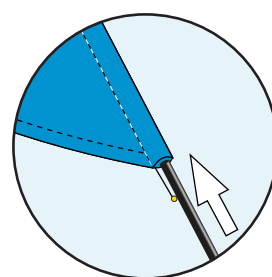
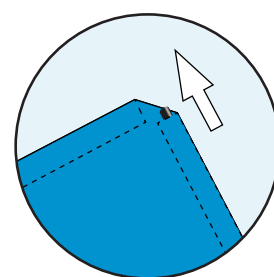

Fig 4.
Fig 5.
4. Take the 2.5m (28mm) top pole section with the cleat and joint at the bottom, and insert it into the bottom of the vertical sleeve. (Fig 4) Push it all the way up until it comes out the top of the sleeve. (Fig 5)